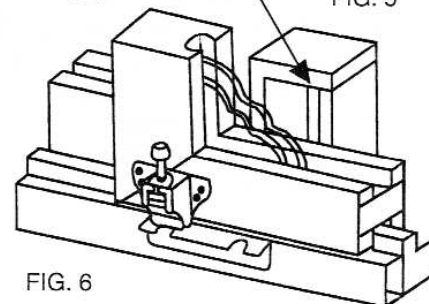

FIG. 6
2. Secure metal L bracket to either head or sill with **#8 x 2** screws. (FIG. 6)